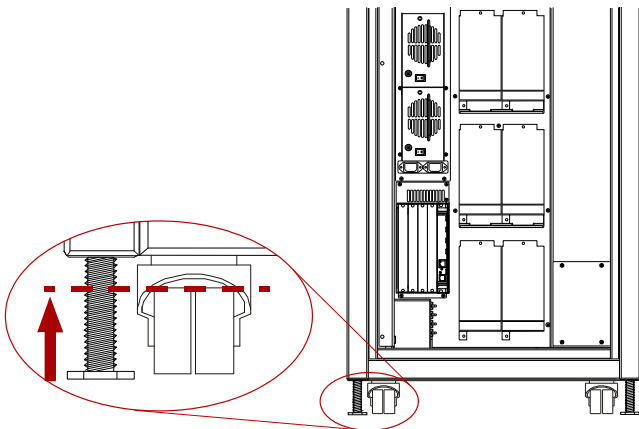

Figure 7. Raising the NEO 8000 Leveling Legs
- c. Use a 10" adjustable wrench to raise the two **leveling legs** at least to the wheel tops (Figure 7).
- d. Use the 10" adjustable wrench to loosen and raise the two **leveling legs** at least to the wheel tops (Figure 7).